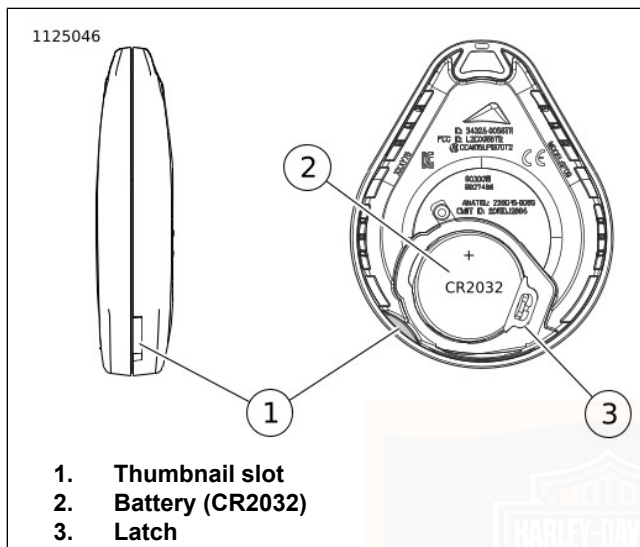

Figure 21. Replace Fob Battery
- See Figure 21. The serial number of the fob is also found on the inside of the fob.
1. See Figure 21. To open the fob, turn a thin blade in the slot (1).
2. Remove the battery (2) and discard in accordance with local regulations.